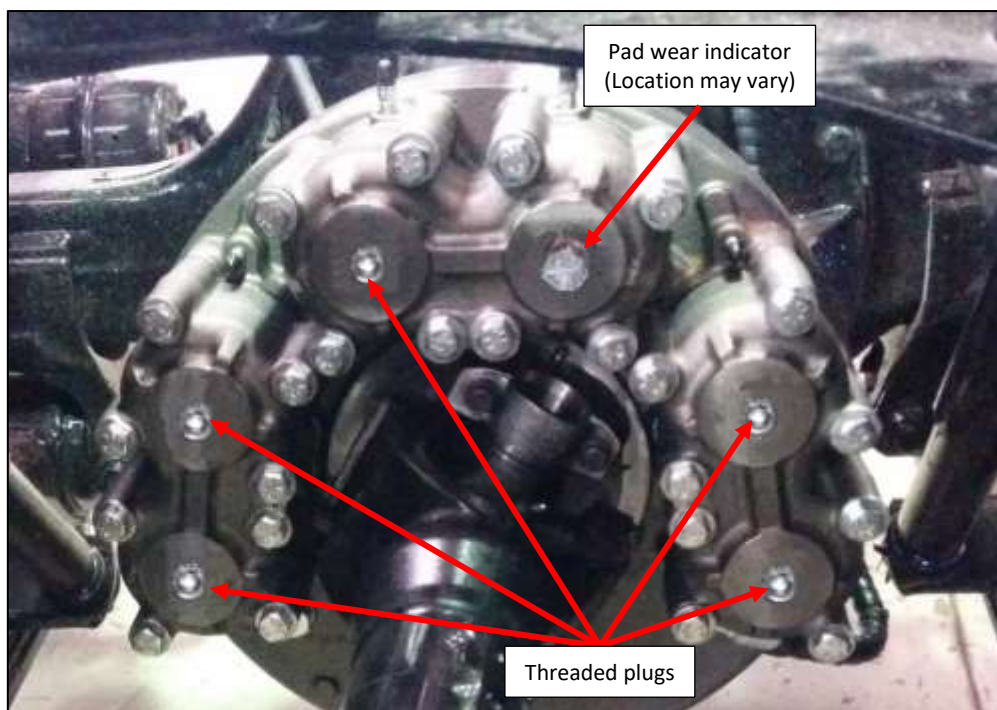

Fig 1: Failsafe Emergency brake threaded plugs and pad wear indicator (HV19 shown).
10. Attach taper plugs (5x on HV19 or 3x on LV21 and MV16) to the spring covers, leaving one of the upper-most holes for the pad wear indicator (see Fig 1).
13. Attach the pad wear indicator plunger to the piston inside the remaining hole in the spring cover (see Fig 1 & 3).
16. Attach the pad wear indicator gland, sealing washer and cap over the plunger onto the spring housing (see Fig 1 & 2).